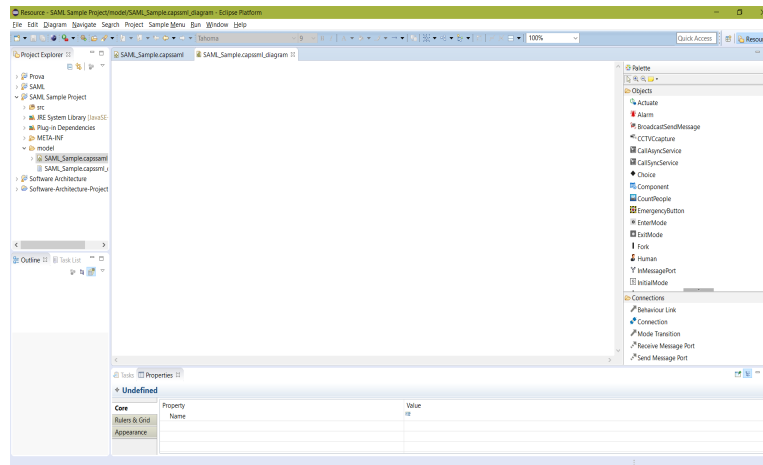

Figure 2.9: The new view
- Now, new objects will appear on the window: as you can see, on the right, there is a **palette section**, where you can take all the items that you need for your architecture. (figure 2.9);